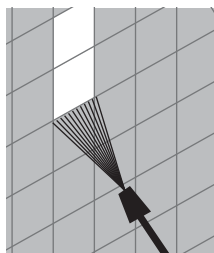

Fig. 13
- > Turn the spray gun (2) to orientate the fan jet in a better way (Figs. 13, 14).